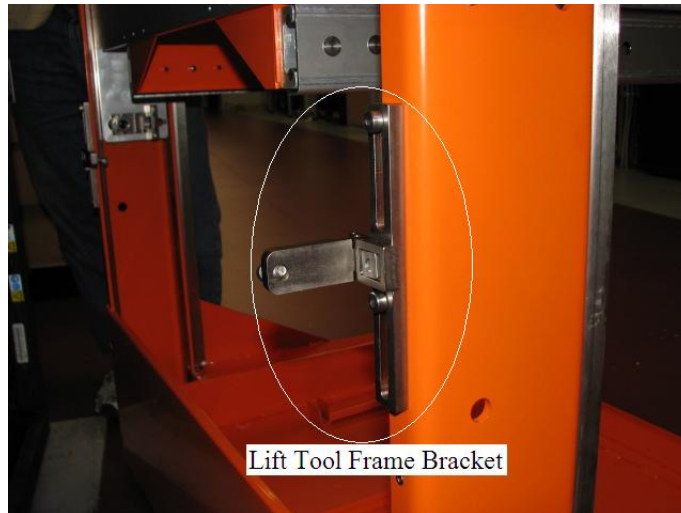

Figure 28 Lift Tool attachment Bracket
- STEP 30 Find the frame attachment bracket on the lift tool (see Figure 28).